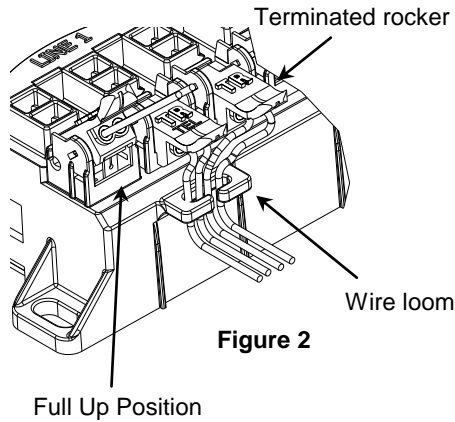

Figure 2
- 3.4 Lift the blue rocker for the digital voice service wires (MTA) to the full up position. DO NOT strip wires. (See Figs 2 & 3)
- 3.5 Insert the Digital Voice Service wires from ATA/EMTA into wire guides simultaneously until they bottom-out. While holding the wires in position, terminate them into the MTA (Blue) rocker by lowering it to the full DOWN position. (See Figs 2 & 3) If the ATA/EMTA is supplying power to the
3.7 Connect a wire pair from the Telephone NID to the rocker labeled TEL (orange). Follow procedure described above for the wire pair termination (See Figs 2 & 3).
3.8 To keep wire pairs organized, route them through the molded wire looms. (See Fig. 2)